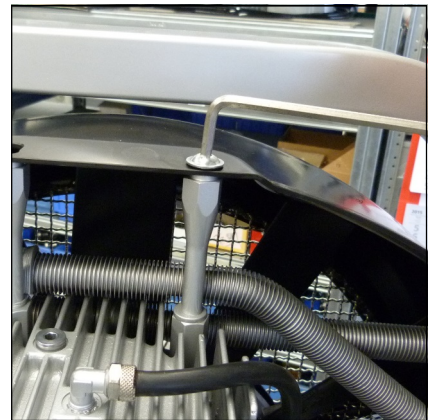

Fig. 1 - Remove top mounting screws
- Tighten top mounting screws (Fig. 1).